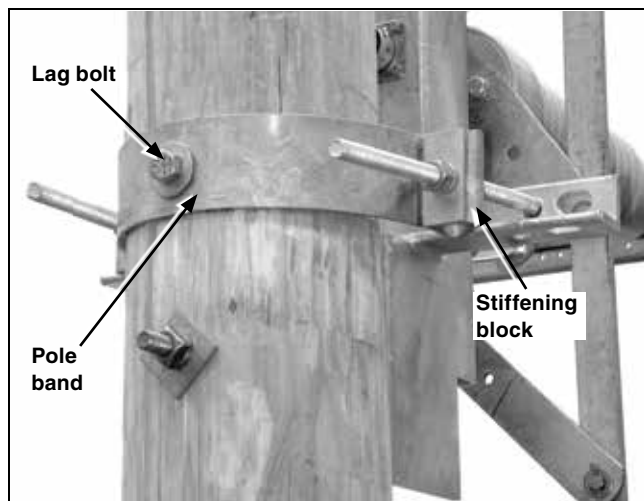

Figure 17. Attaching the pole bands.
STEP 15. Attach the pole bands to the switch base anchor brackets using the J-bolts furnished. Use a stiffening block under each nut. See Figure 17.